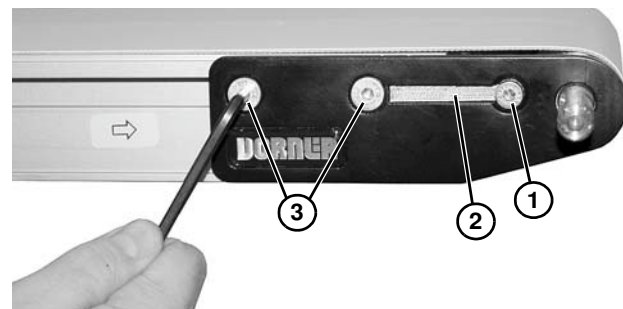

Figure 89
2. On one side of the conveyor, remove screw (**Figure 89, item 1**) and remove dust cover (**Figure 89, item 2**), if installed.
3. Remove two fastening screws (**Figure 89, item 3**).